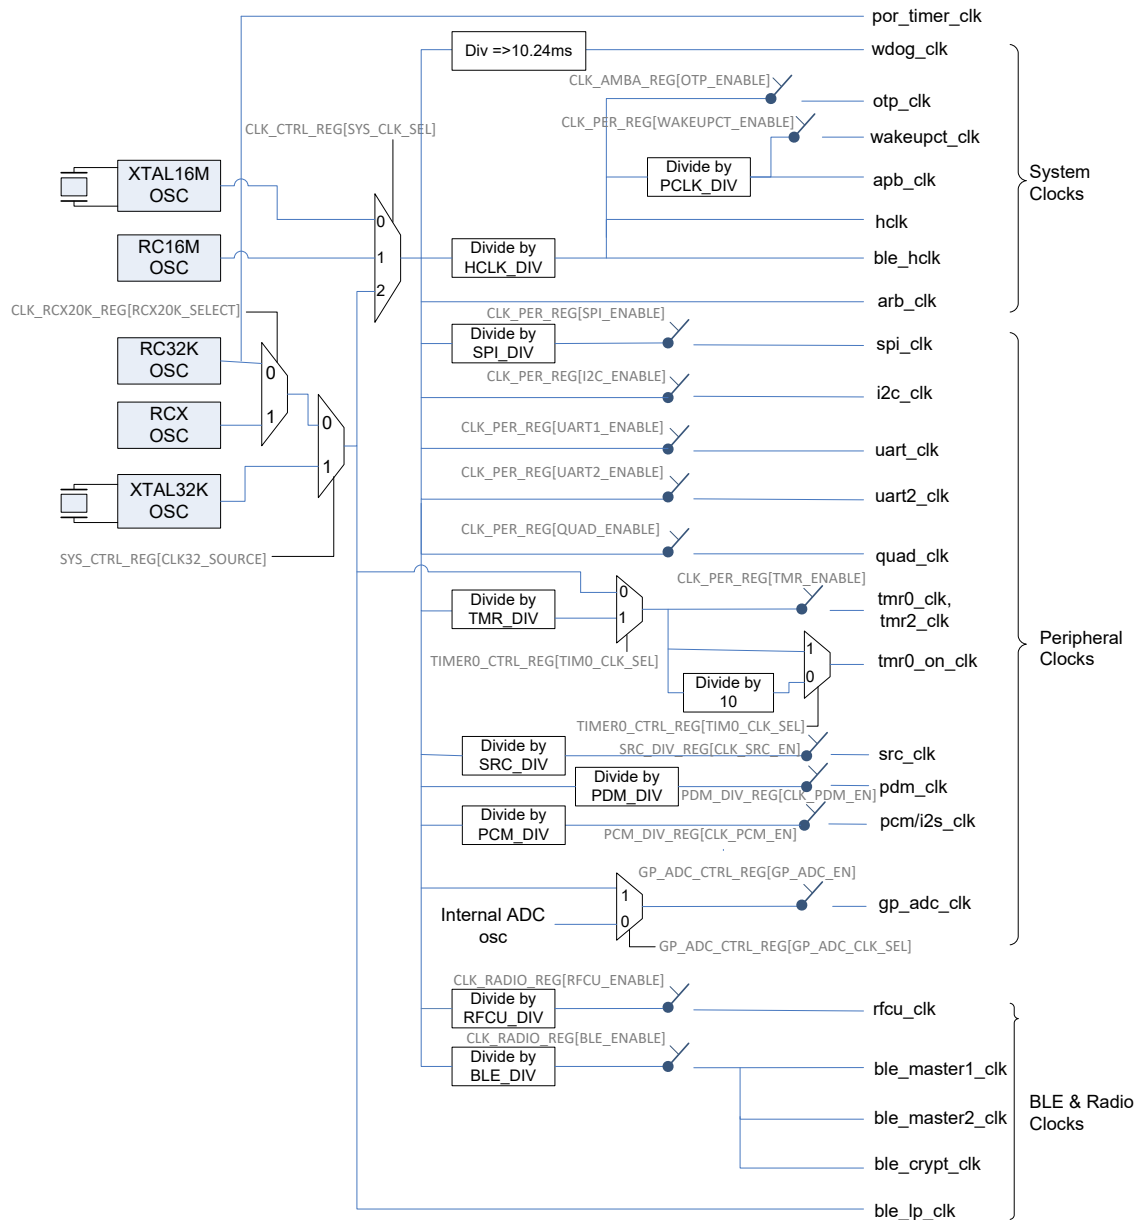

Figure 20: Clock Generation Block Diagram
The clock names depicted in Figure 20: Clock Generation Block Diagram are explained in Table 32:
- When the SPI block is set to Slave mode, then the spi\_clk (as depicted in Figure 20) should be at least 4x the clock frequency provided by the external SPI Master. This is required for proper sampling of the data line.